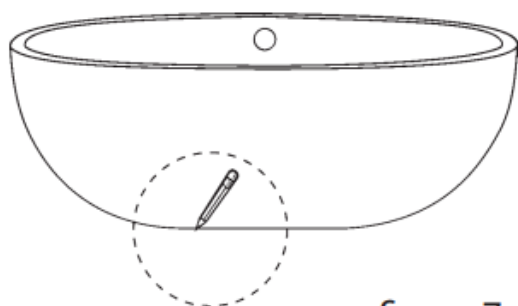

figure 7
2. Place the unit in the exact installed position on the floor and trace the outline of the bath with a pencil or any erasable marking (figure 7).